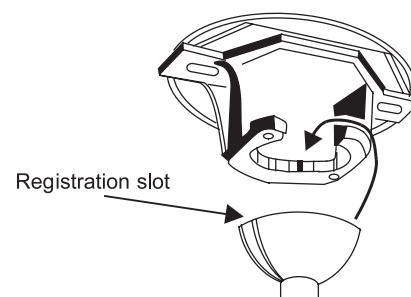

Figure 8
Step 8. Place the downrod ball into the hanger bracket socket. (Fig. 8)